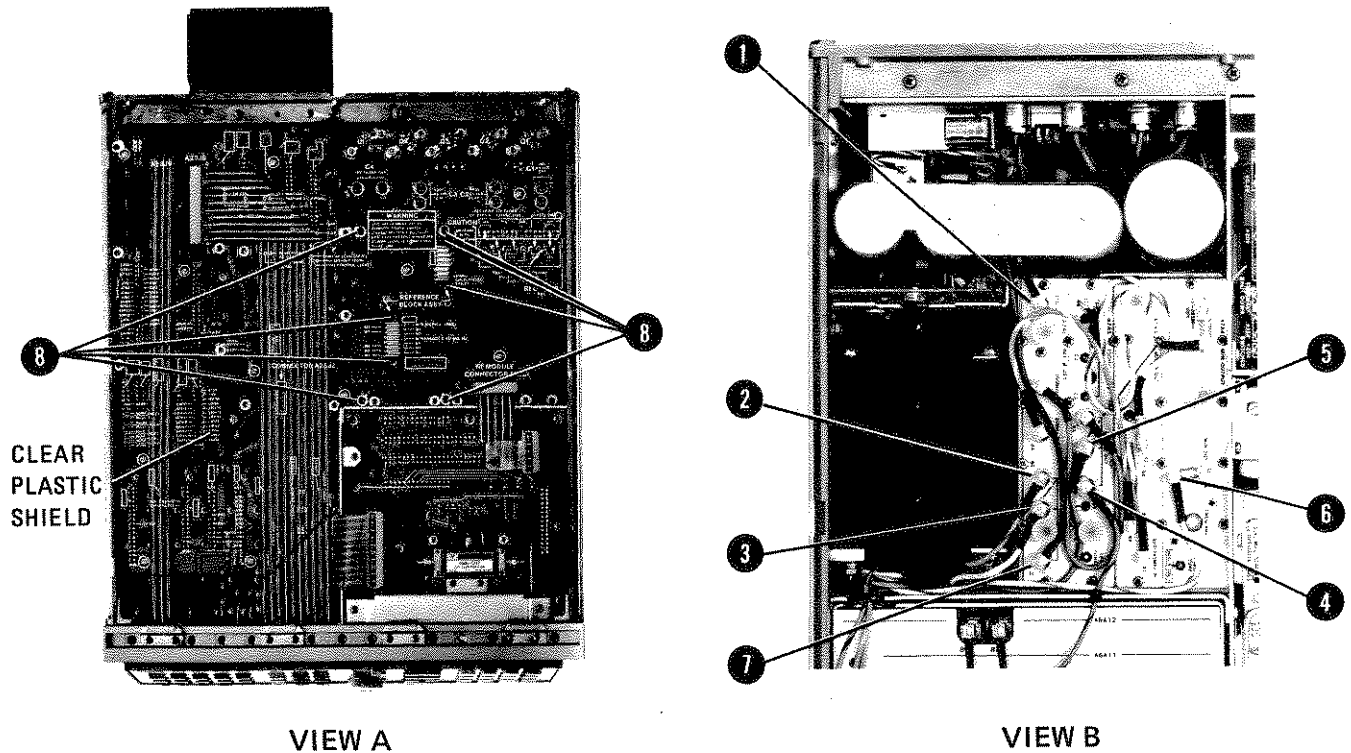

FIGURE 1. A7 M/N REFERENCE REMOVAL AND INSTALLATION
For location of hardware and cables referred to in this procedure, see Figure 1.
3. Remove clear plastic shield from motherboard (Figure 1, VIEW A) by removing all nylon screws. Remove eight screws (8) from the motherboard (refer to View A). Note: Screws are marked on motherboard with the letter "B" for easy identification.